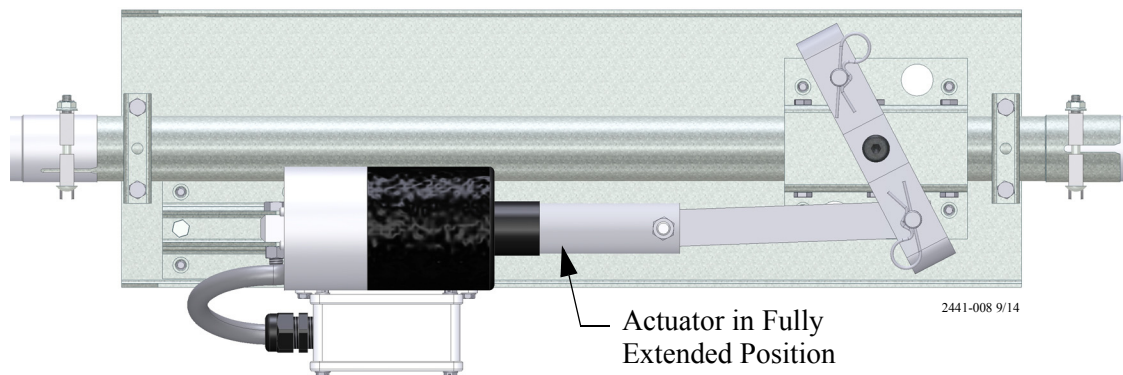

Figure 67. Actuator in Fully Extended (Open) Position
2. Manual/Automatic switch in the manual position. Manually operate one actuator at a time running the actuator to the extended (Open) position, see figure 67.